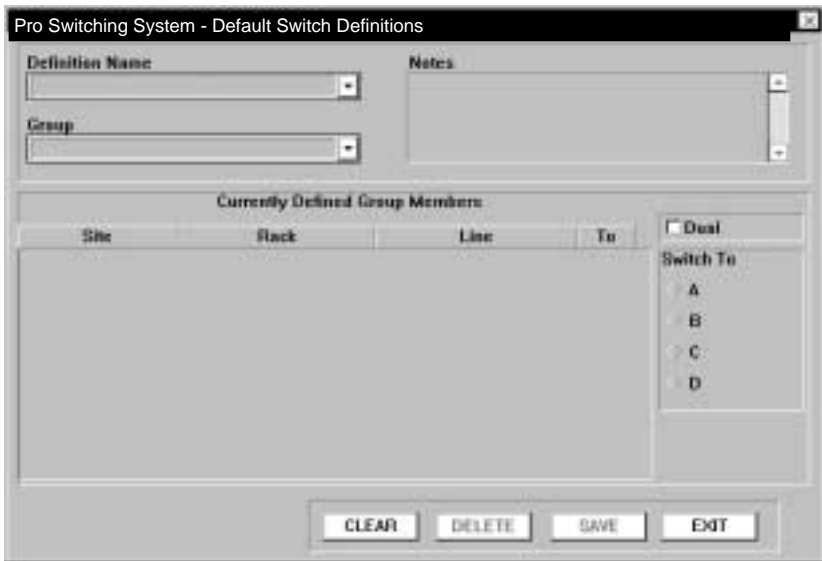

Figure 6-13. Default Switch Screen.
1. From the main menu, select Pro Switching System, then Definitions, then Default Switch. The Default Switch Definitions screen appears (see Figure 6-13).